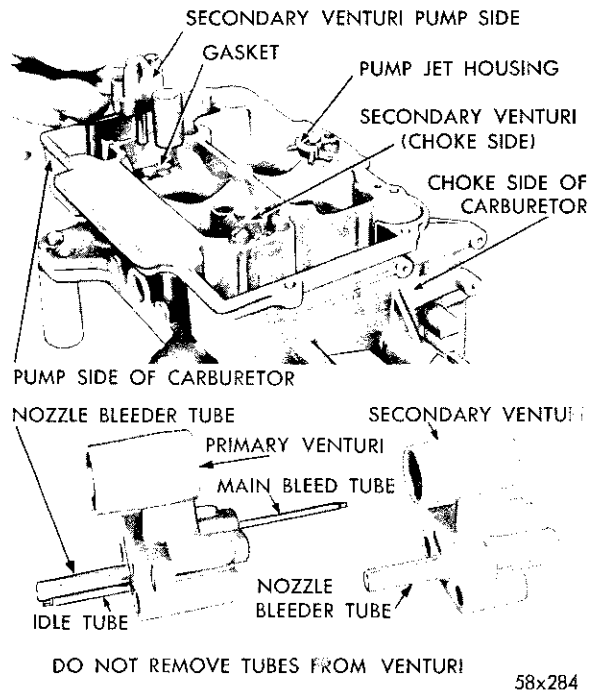

Fig. 26—Removing or Installing Secondary Venturi
(5) Remove the screws that attach the secondary venturi (choke and pump side) to the main body. Lift the secondary venturi assemblies straight up and away from the body, as shown in Figure 26.